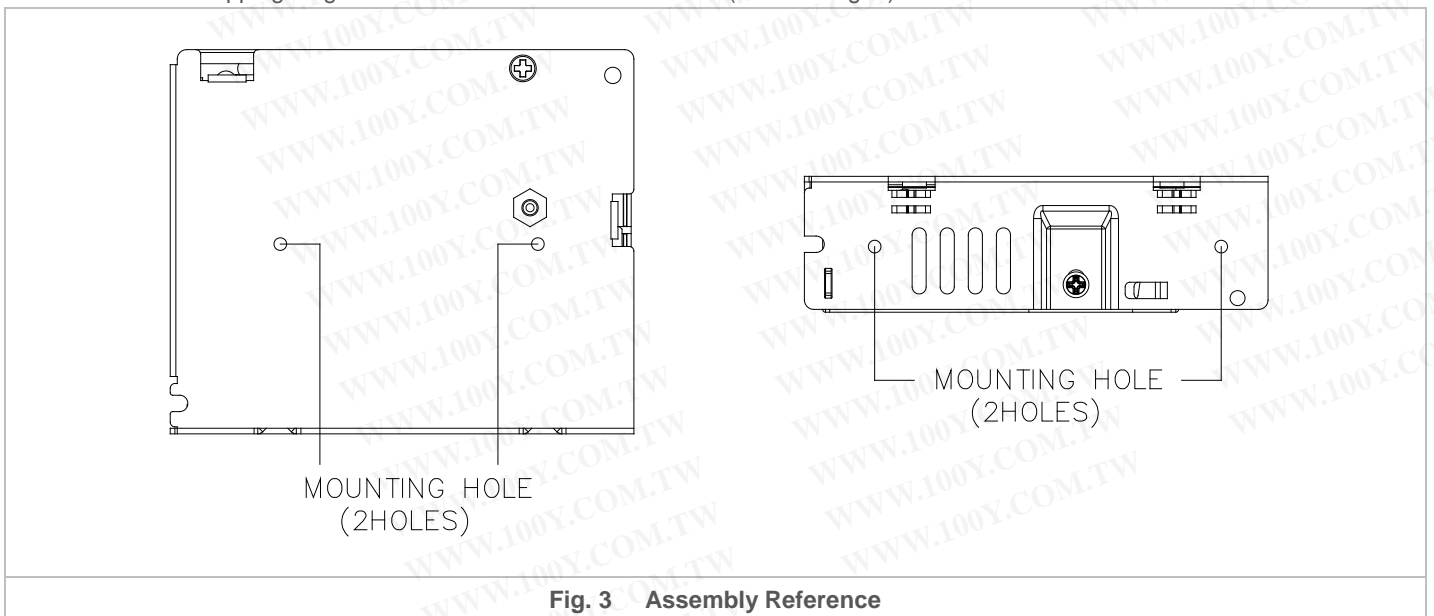

Fig. 3 Assembly Reference
- Use flexible cable (stranded or solid) of AWG No. 18-12. User should calculate and select the suitable wire specification (type/quantity/diameter) according to actual output current. The torque at the Connector shall not exceed 8Kgf.cm. (6.94 lbf.in). The insulation stripping length should not exceed 0.275" or 7mm (Refer to Fig. 3).